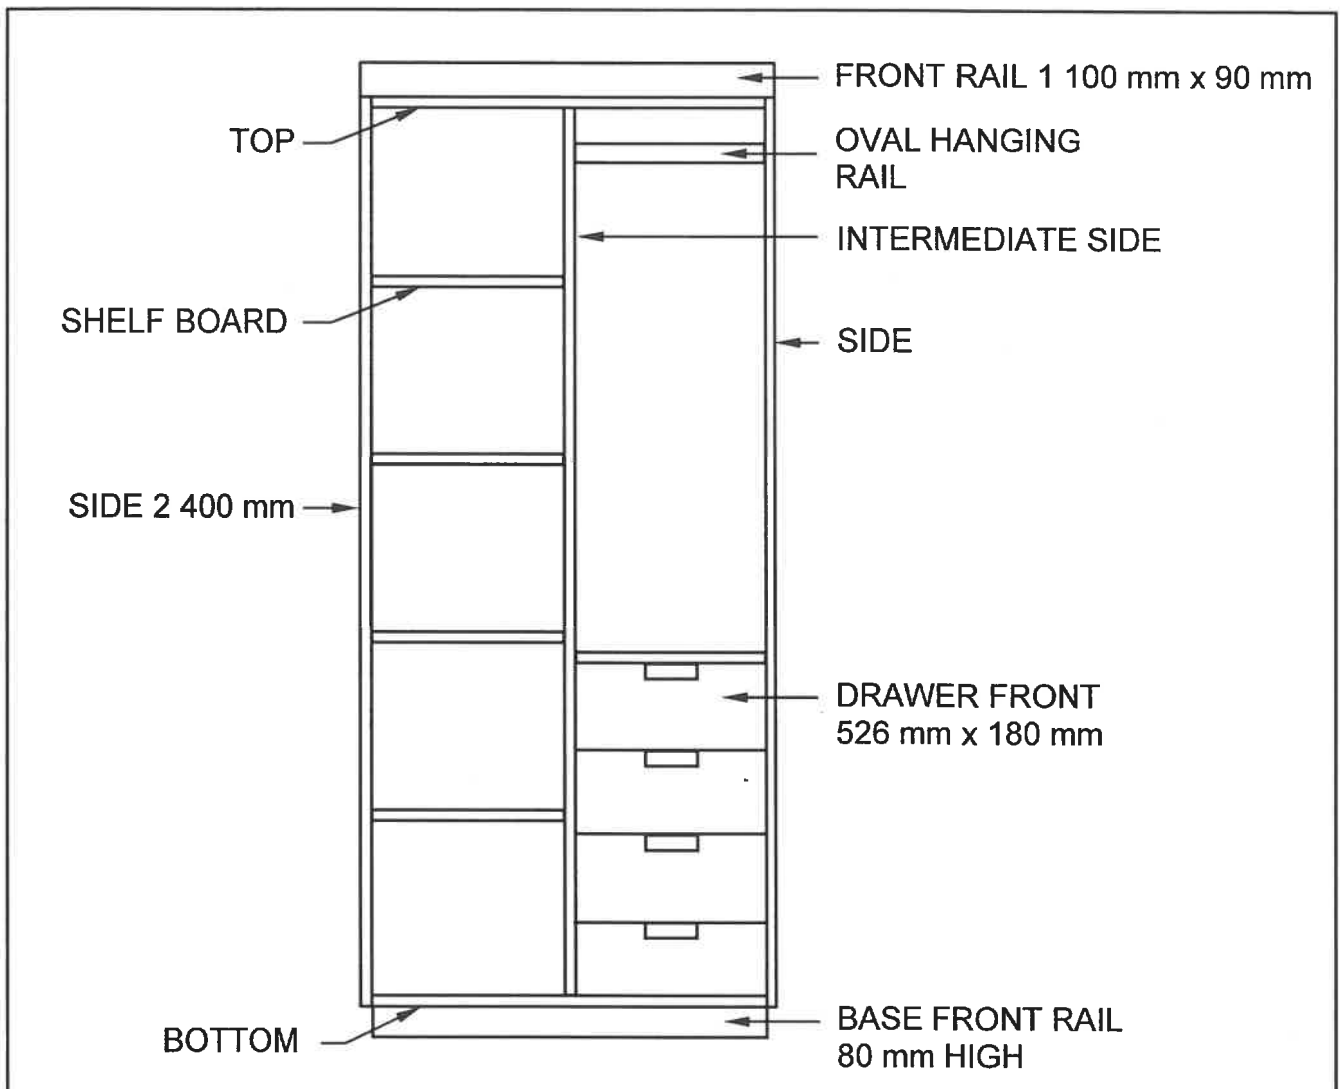

FIGURE 3.2
3.2 FIGURE 3.2 below shows the front view of a free-standing cupboard without doors.